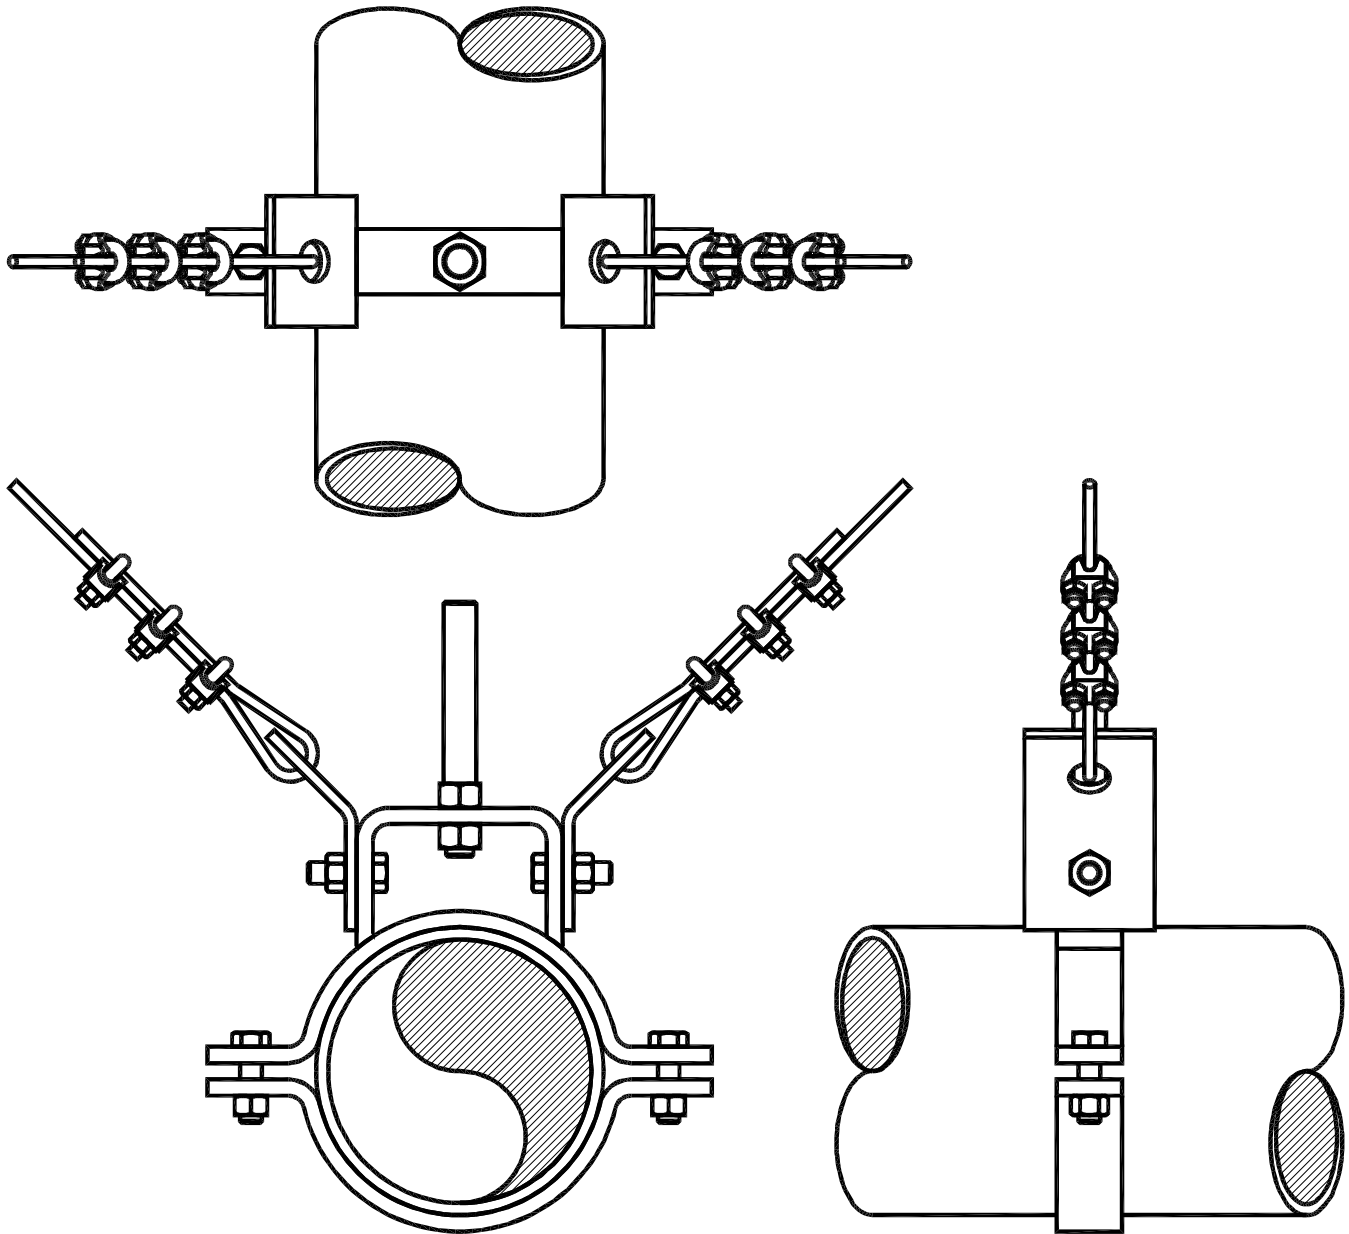
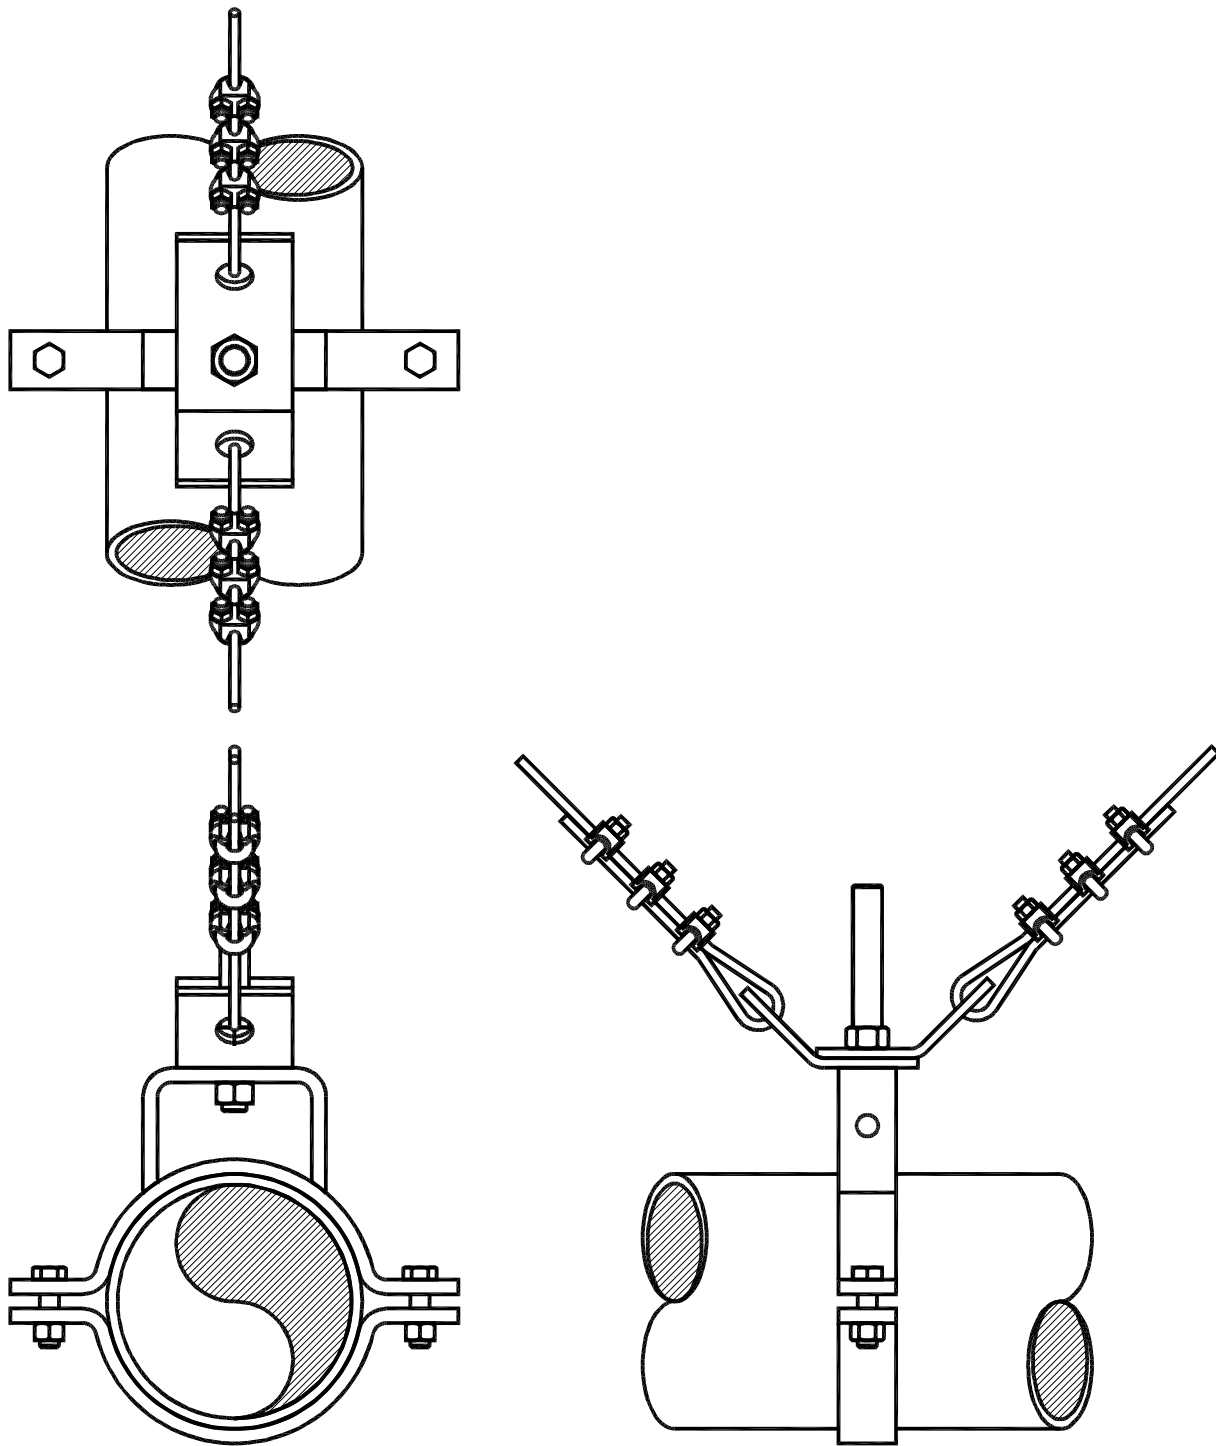

Figure I6-30; KSCC Brackets Attached to a Commercially Available Clamp Type Clevis Hanger – Transverse (T) Restraints
Figure I6-31; KSCC Brackets Attached to the Hanger Rod of a Commercially Available Clamp Type Clevis Hanger – Longitudinal (L) Restraints
The commercially available clamp type clevis hangers shown in Figure I3-13 may be used with the KSCC brackets. Figure I6-30 shows this type of clevis hanger with transverse (T) seismic restraints. Figure I6-31 shows the use of this hanger type with longitudinal (L) restraints and